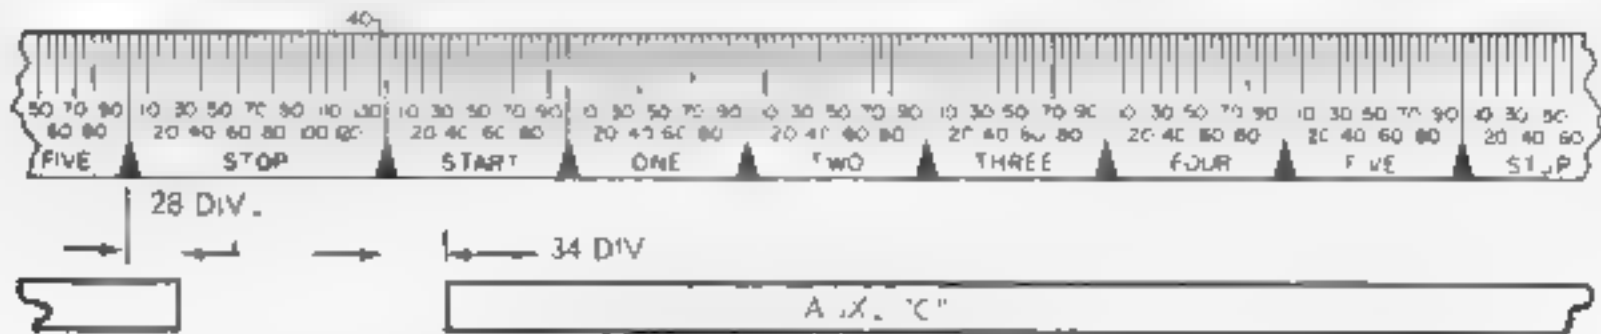

FIGURE 17. LBXD19 DISTRIBUTOR AUXILIARY CONTACT REQUIREMENTS -
(2) Distributor Auxiliary "C" Contact (See Figure 17.)